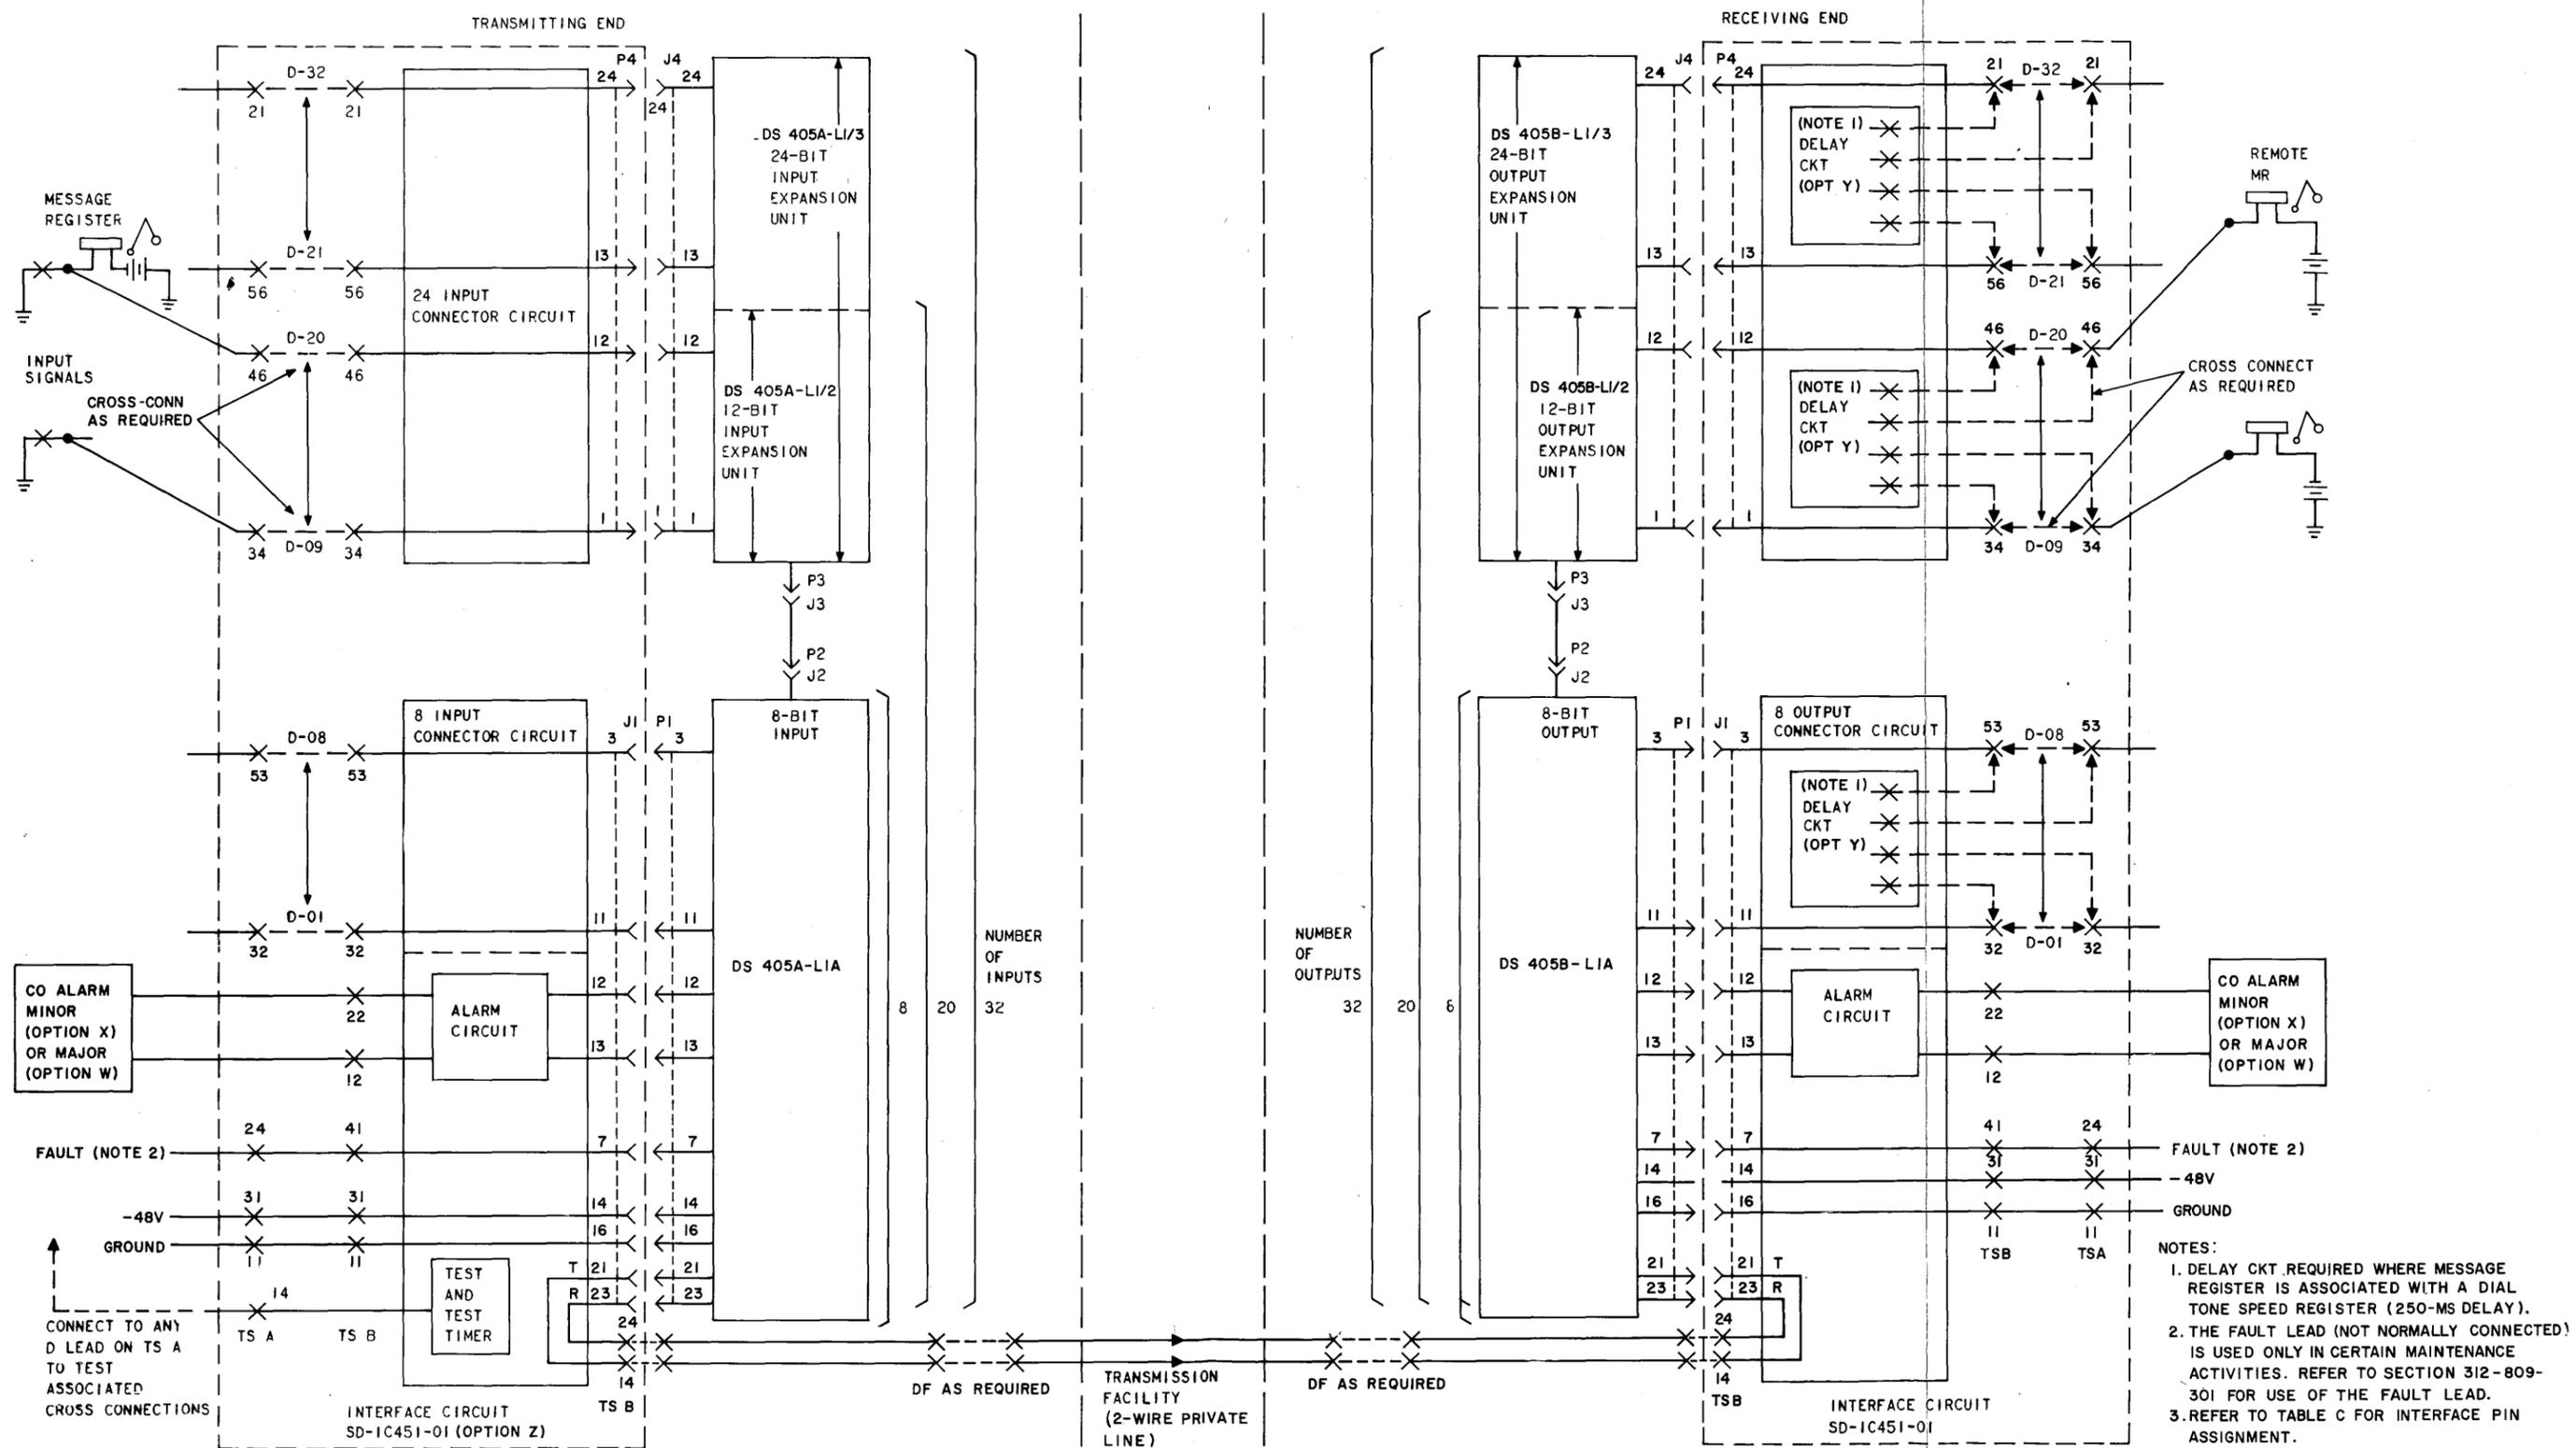

Fig. 1—405 Data System in Remote Message Register Application—Connection
- **Option Y:** 250 ms delay circuit associated with dial tone speed register in receiving interface circuit only. Refer to Fig. 1.
3.01 Figure 1 illustrates the connecting arrangement for the 405-type Data System (with expansion units as required) when arranged for remote message register operation. Table C provides the interface pin assignment for the 405-type Data System. Table C is used in conjunction with Fig. 1 when installing the 405-type Data System. The procedure is as follows: